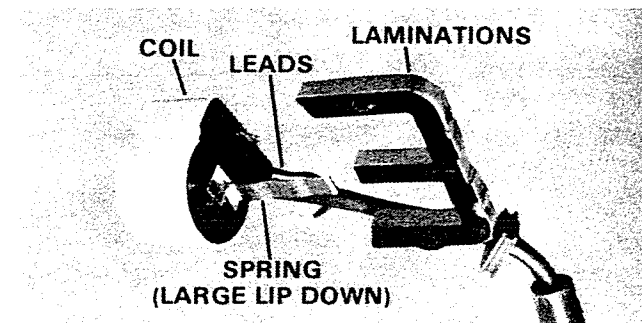

Figure 4. Assembling Coil.
1. Assemble coil to laminations so that large lip of spring is "down" and on side opposite leads. Figure 4.